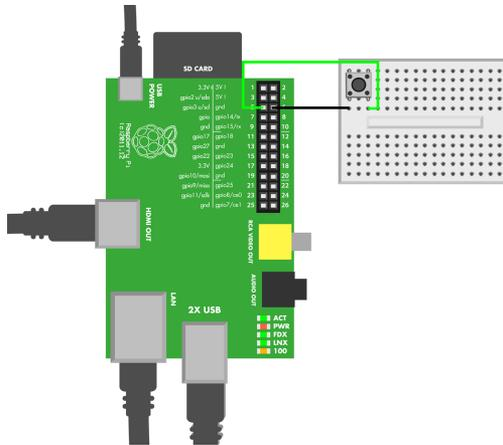

Figure 4-2. Button on breadboard
Build the circuit as shown in Figure 4-2. You’ll need to follow these steps:
3. Choose a breadboard column with a pair of button leads in it. Plug the male end of a jumper wire into that row, and connect the wire's other end to GND (pin 6 in Figure 4-2) on the Raspberry Pi.